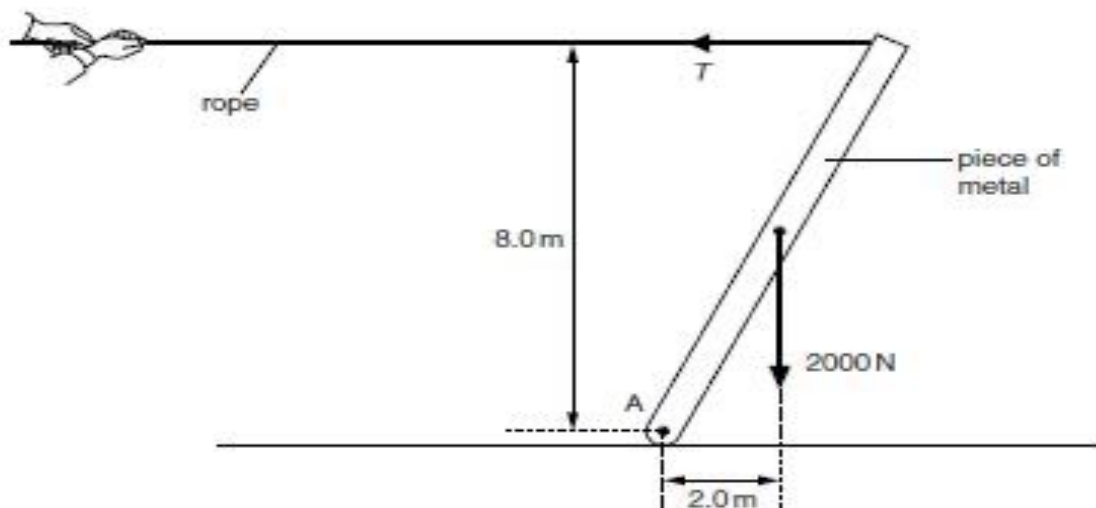

Fig. 2.1 (not to scale)
- (b) Fig. 2.1 shows a system for raising a heavy piece of metal into a vertical position.